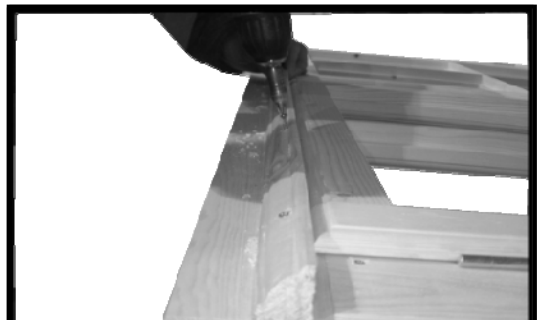

Fig A19
33. Fix the drip bar at the top of the window, there is a thin groove in one of the flat edges this needs to be facing the bottom of the building. Pre-drill seven holes and secure approx. 5mm above window inserts using 7 x 40mm screws.(figA19)